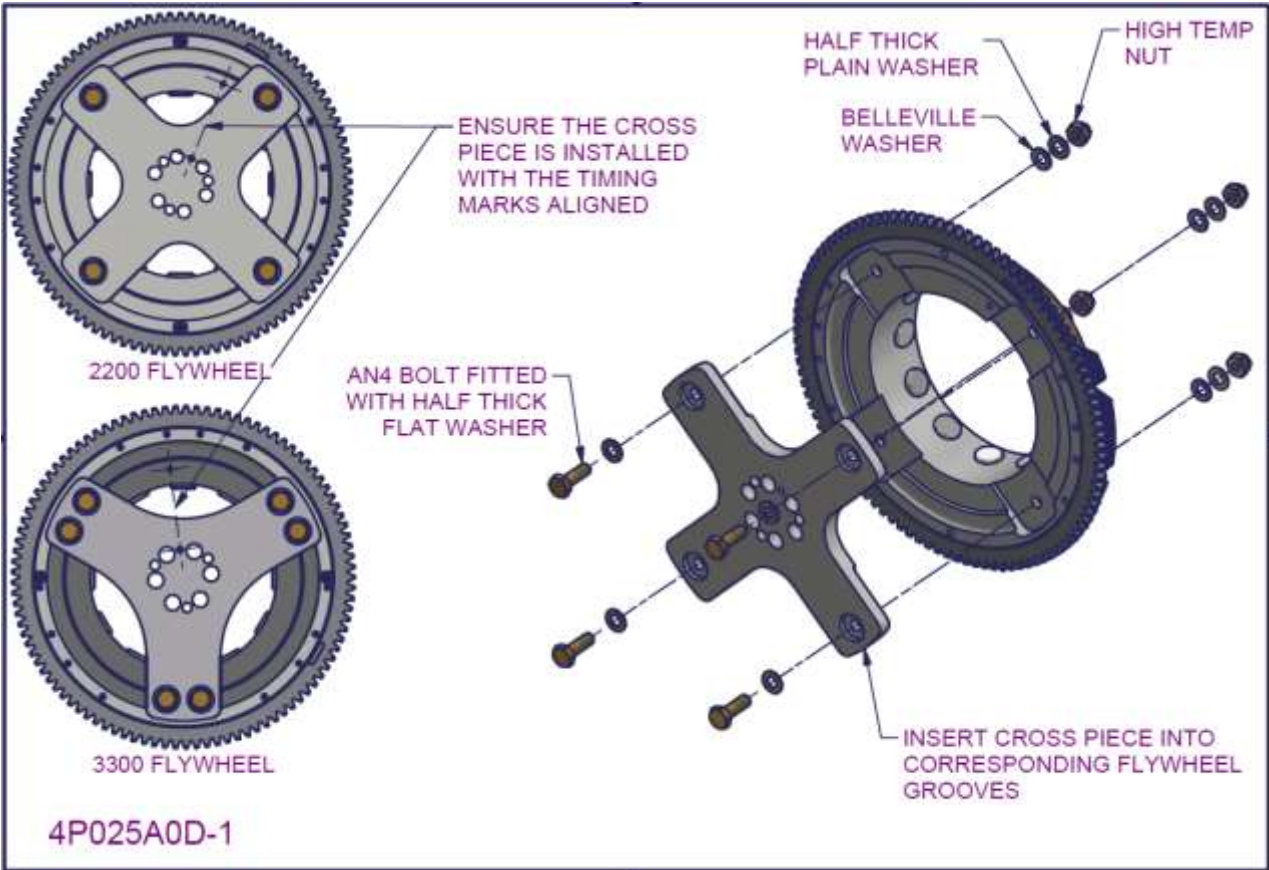

Figure 97 - 2200/3300 Flywheel subassembly (aluminium cross piece) 4
- Ensure that the cross piece is install with the two timing holes correctly aligned as shown in Figure 97